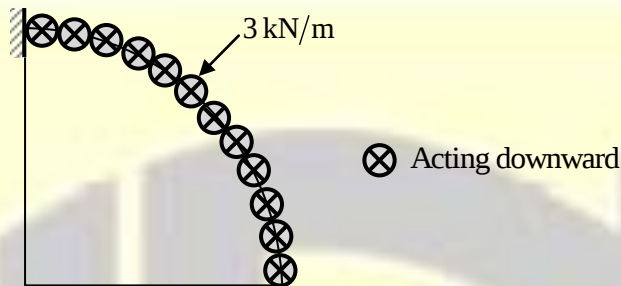

Figure 7
- (c) Compute and draw the vertical shear, bending moment and torque diagrams of the cantilever circular bow girder shown in Figure 7 in the shape of a quadrant of a circle of radius 3 m and carrying a uniformly distributed load of 3 kN/m (normal load). The girder lies in the horizontal plane.